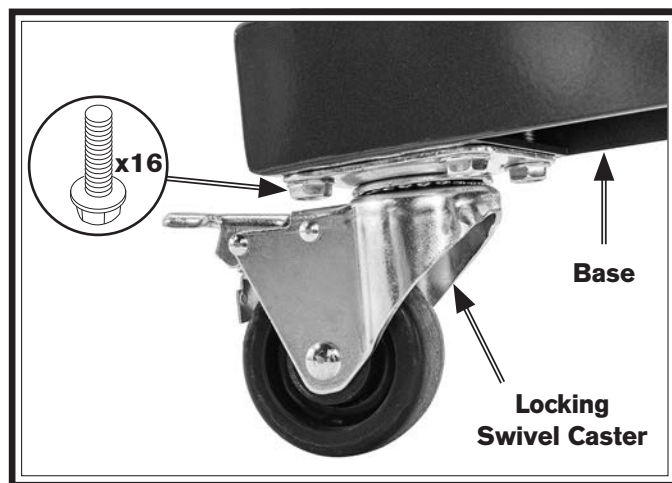

Figure 6. Locking swivel caster attached to base.
1. Attach (4) 2½" locking swivel casters to base with (16) ½"-18 x ½" flange bolts (see **Figure 6**). Lock casters for assembly.